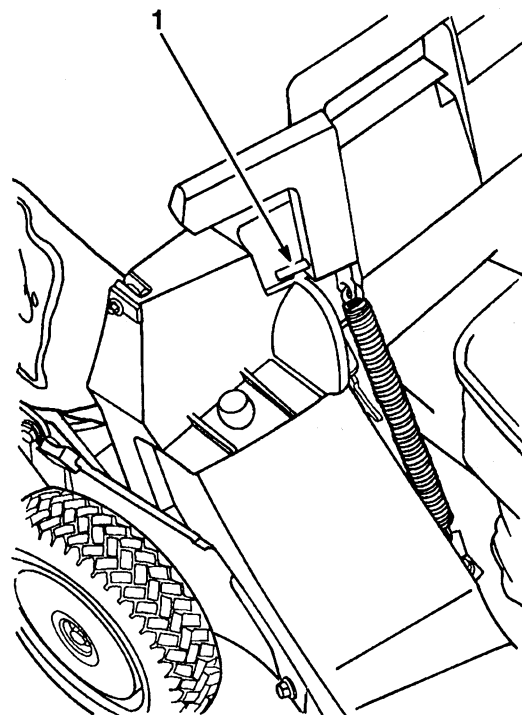

Figure 12
4. Pull discharge door handle forward until pin clears catch and move handle rearward until pin locks in bag notch (Fig. 12). Discharge door in mower housing is now open.